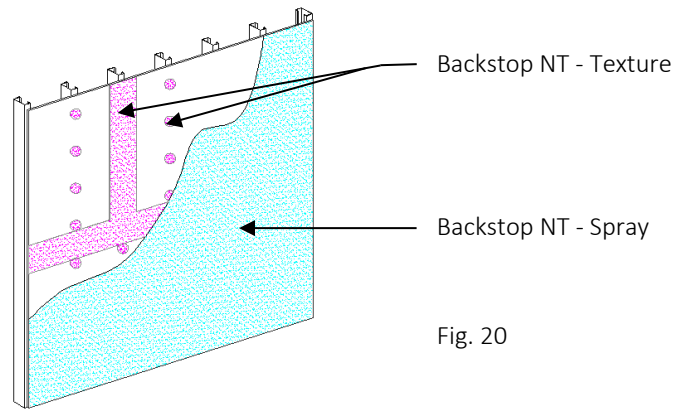

Fig. 20
- 1) Backstop NT - Spray material should be applied in a uniform, continuous film at the recommended coverage rate free of voids and pinholes – Figure 20. **NOTE: Sheathing substrates with a surface texture or high porosity will require additional material.**